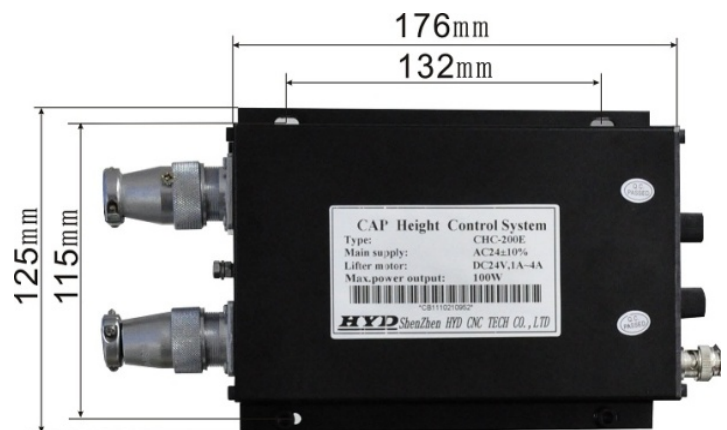

Figure 1-1
- Product size shows as figure 1-1